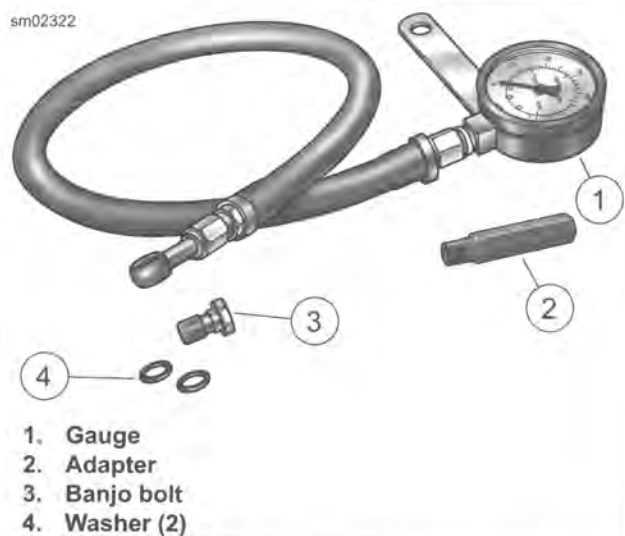

Figure 3-10. Oil Pressure Gauge Set
3. See Figure 3-10. Install OIL PRESSURE GAUGE SET (Part No. HD-96921-52D).
- a. Hand-tighten adapter (2) in oil pressure switch mounting hole.
- b. Assemble banjo bolt (3), washer (4), oil pressure gauge (1), banjo fitting and second washer onto adapter. Hand-tighten.